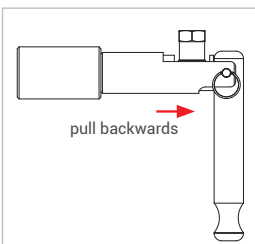

Figure 5
- ▶ Pull lightly on the connector (red arrow Figure 5) in the direction opposite that of the connection to make sure that the connector is firmly in place.